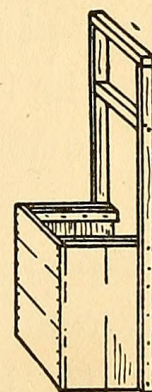

FIG. 335. Framework of Chair.
**Holding out a Chair upon which a Boy is seated**, you will need an old seatless chair or a box with the ends knocked out and two uprights and crosspieces nailed to it for a back (Fig. 335). Drape the chair or box with a sheet or a piece of cloth of any kind large enough to